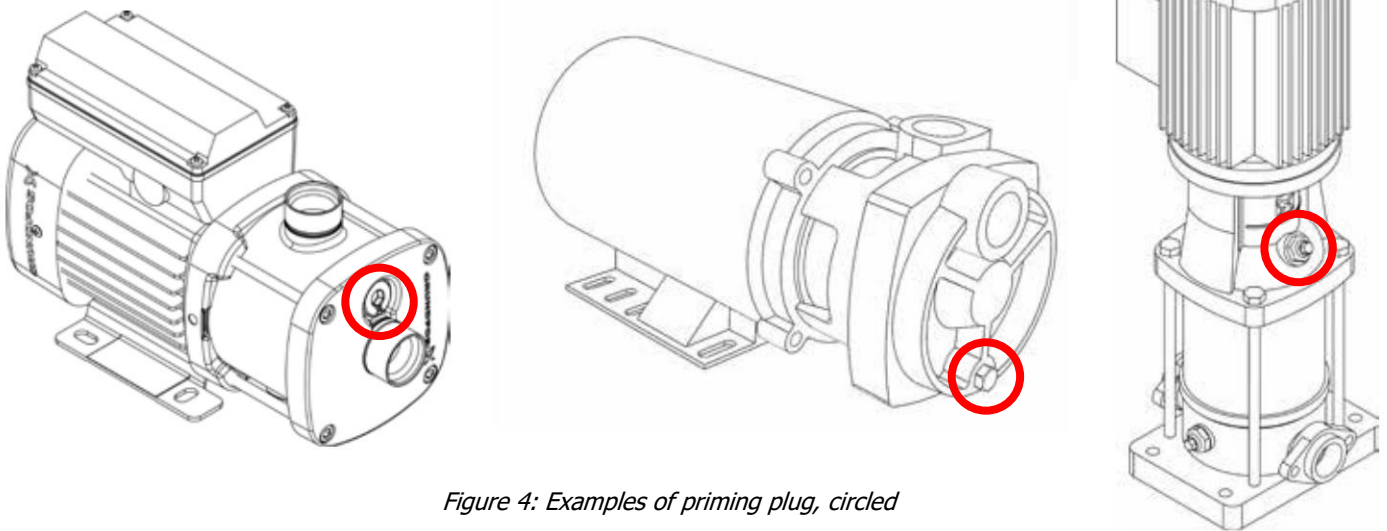

Figure 4: Examples of priming plug, circled
1. Identify the priming plug on the face of the pump head (Figure 4).